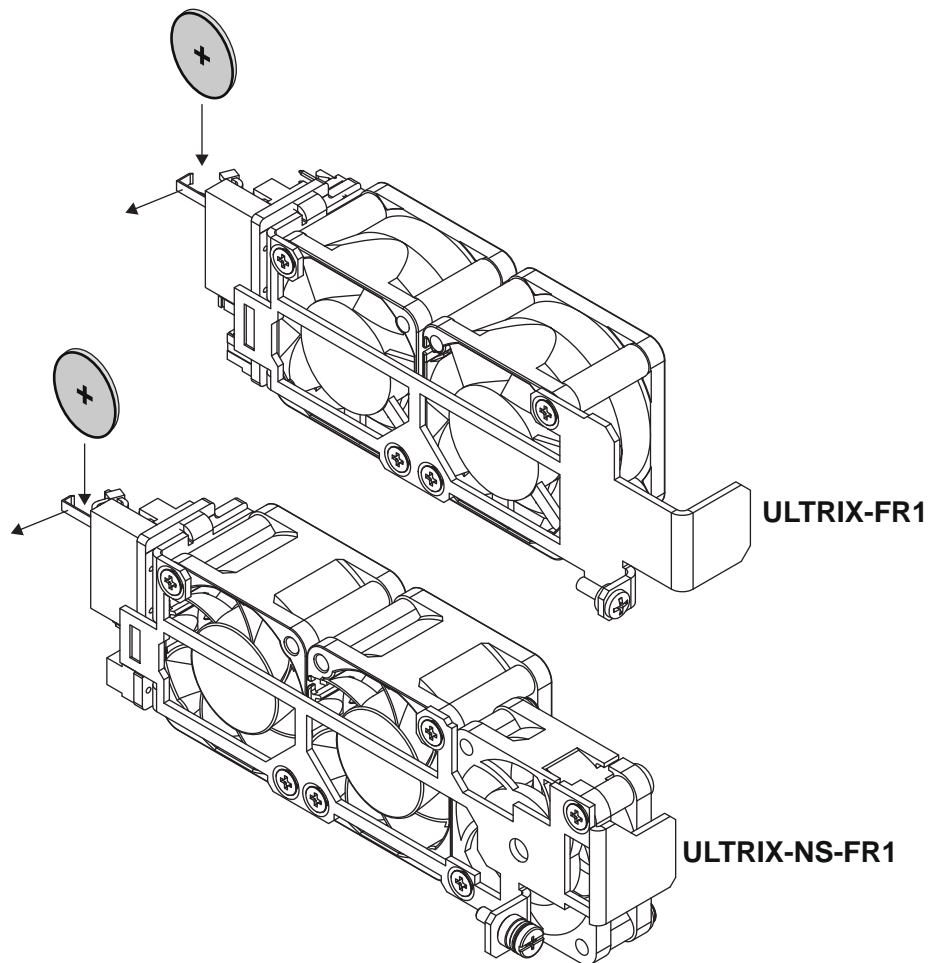

Figure 90 New Battery Orientation —ULTRIX-FR1 and ULTRIX-NS-FR1
1. Hold the battery in one hand and orient it so that the Positive side (+) faces away from you. (Figure 90)
1. Hold the battery in one hand and orient it so that the Positive side (+) faces away from you. (**Figure 90**)